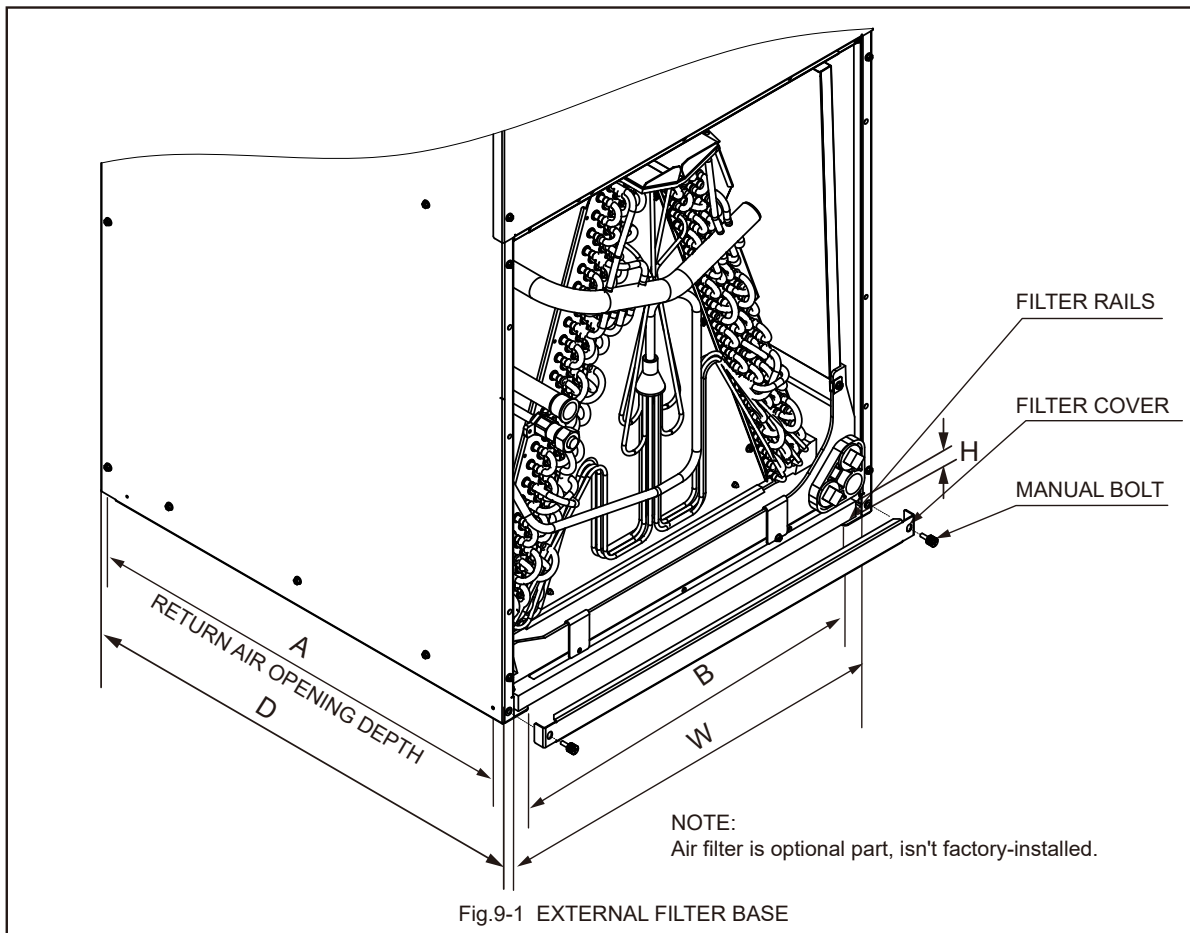

Fig.9-1 EXTERNAL FILTER BASE
1. Remove bolts manually, remove air filter recover. See in Fig.9-1.